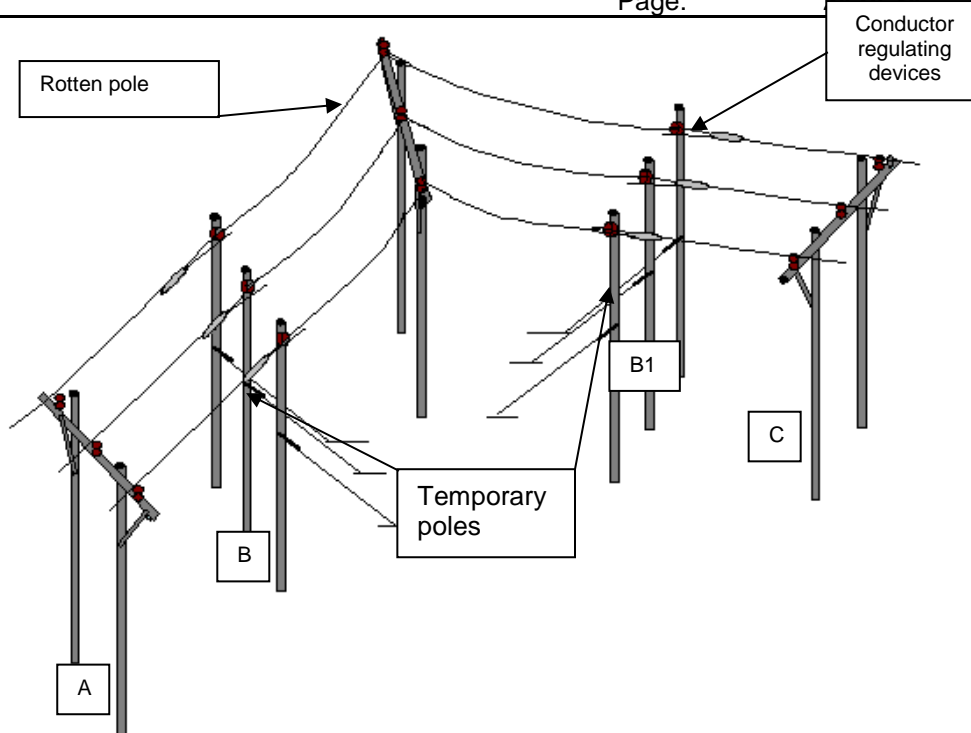

Figure 8: Installing Temporary H Pole Structures
- Manually erect temporary pole structures labelled number B and B1), plumb/square and compact poles, tension and make-off stays (see figure 8).
- f) Evenly tension conductors to initiate slack between temporary structures and rotten / damaged pole (refer to figure 8).